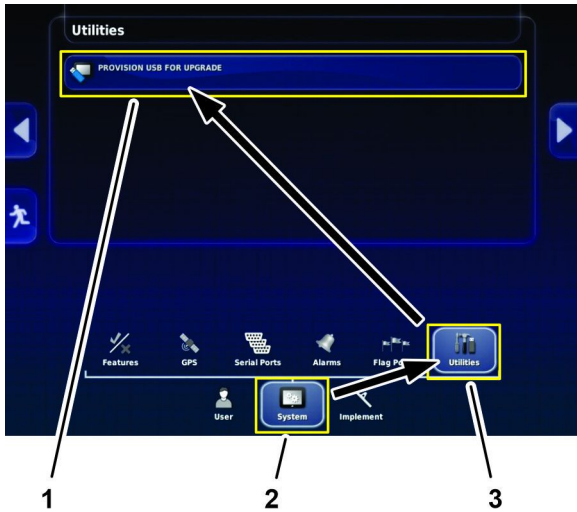

Figure 20
- On the setup screen, press the SYSTEM icon and the UTILITIES icon (Figure 20).
- In the utilities dialog box, press the PROVISION USB FOR UPGRADE icon (Figure 20).